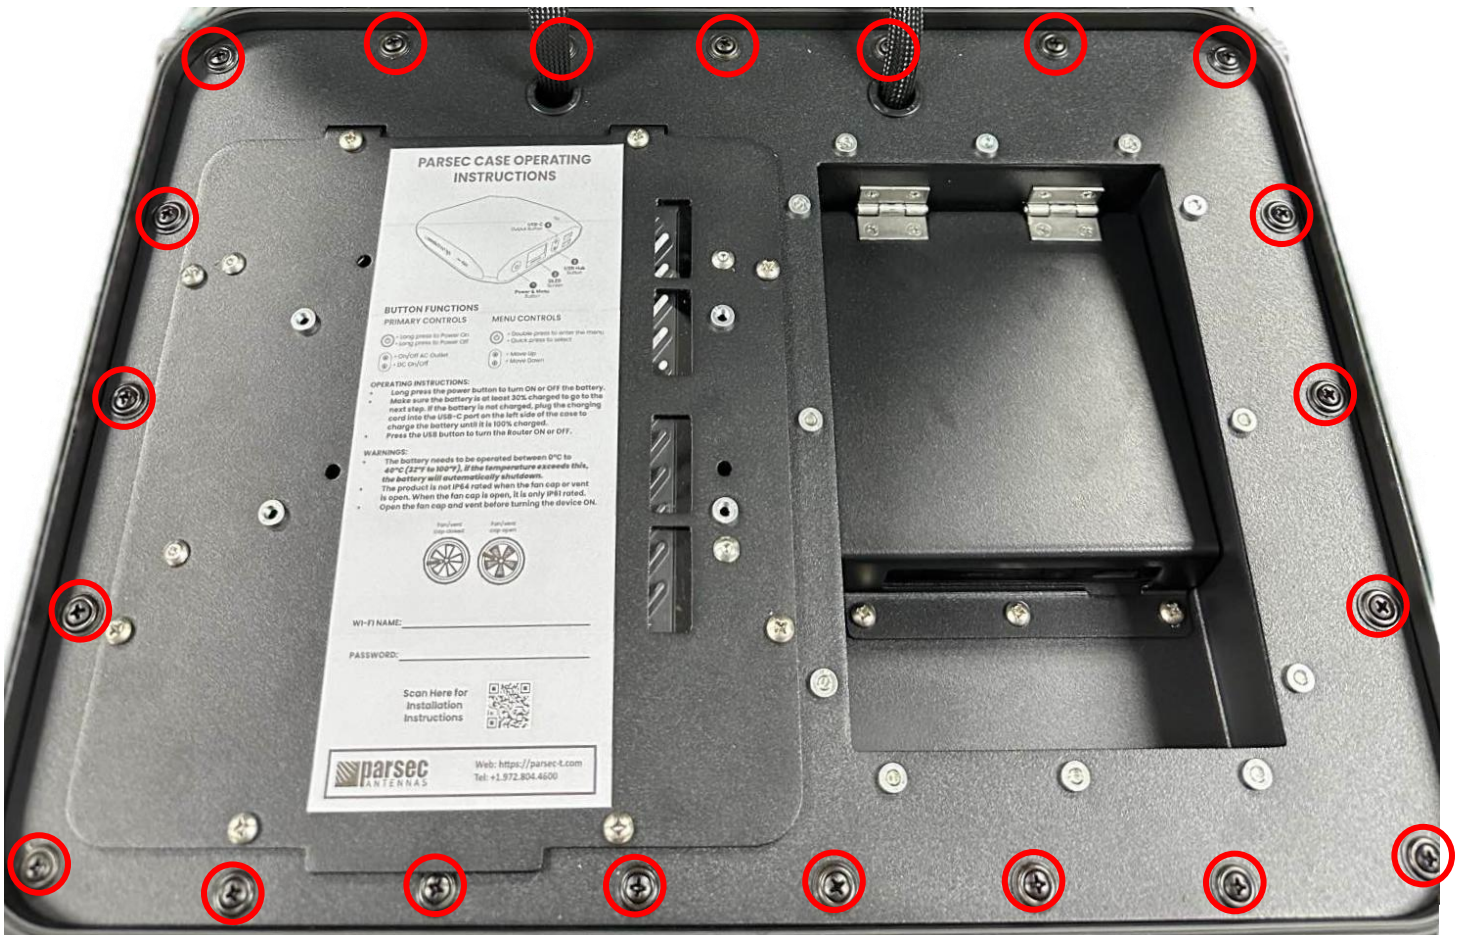

Figure 12: Fasten the cover plate to the case using PTA0351 screws.
- B. Fasten the cover plate to the case using the twenty-one PTA0351 black oval head screws with washers provided in the kit, as shown in Figure 12.